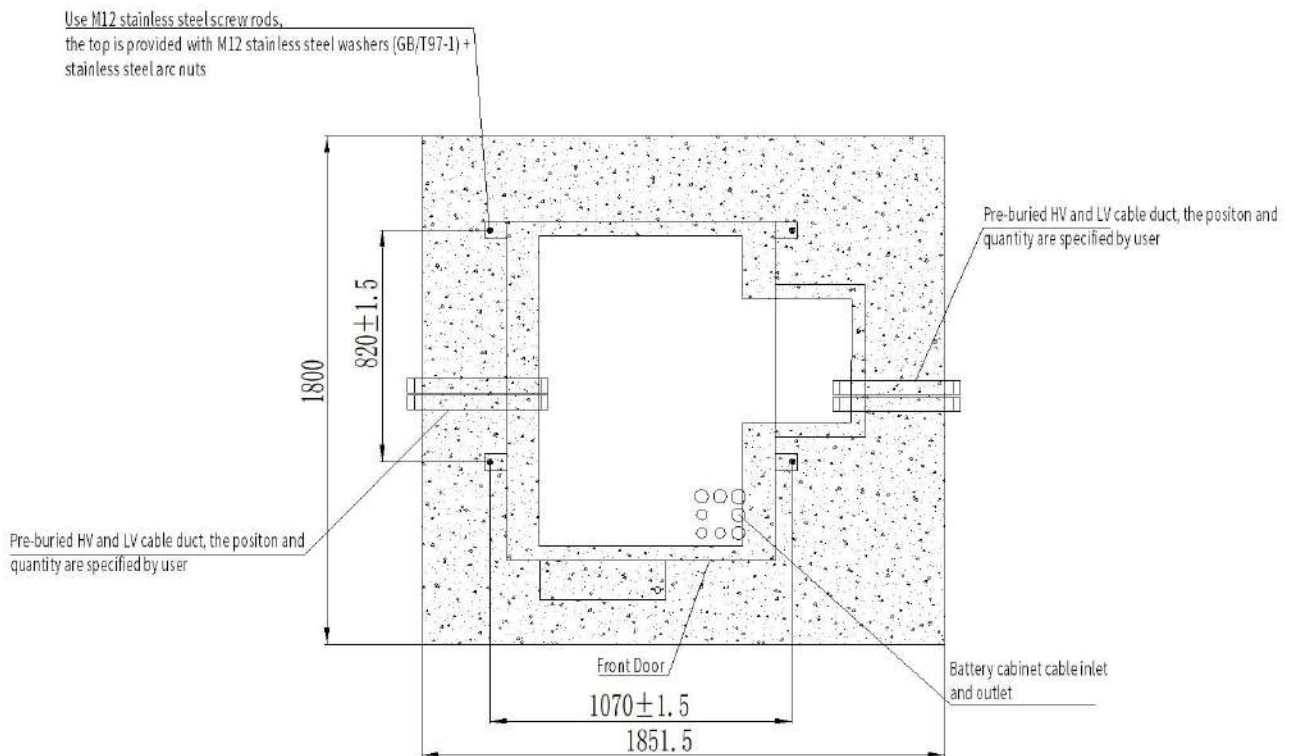

Figure 5-2 Foundation
As shown in Figure 5-2, each cabinet has four fixed points.
- As shown in figure 5-2, each cabinet has four fixed points;